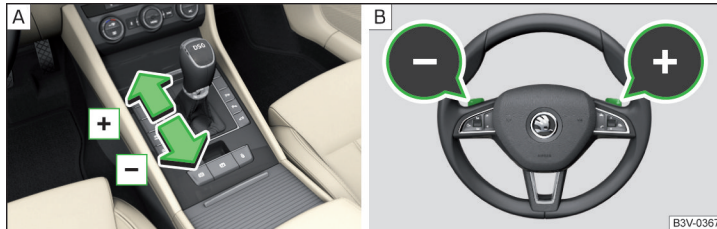

Fig. 160 Selector lever/multi function steering wheel
- To **shift up**, tap the selector lever forwards **+** or pull the rocker switch **+** briefly towards the steering wheel » Fig. 160.
- To **shift down**, tap the selector lever backwards **-** or pull the rocker switch **-** briefly towards the steering wheel » Fig. 160.
- To **change gear**, pull one of the rocker switches **-/+** briefly towards the steering wheel » Fig. 160.